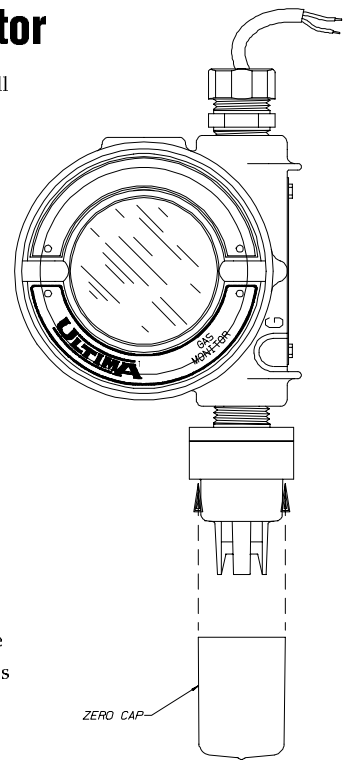

Figure 2. Calibration Set-up
1. Connect a cylinder of zero gas, or install the Kit calibration cap over the end of the Ultima Gas Monitor sensor inlet (FIGURE 2). Wait two minutes.